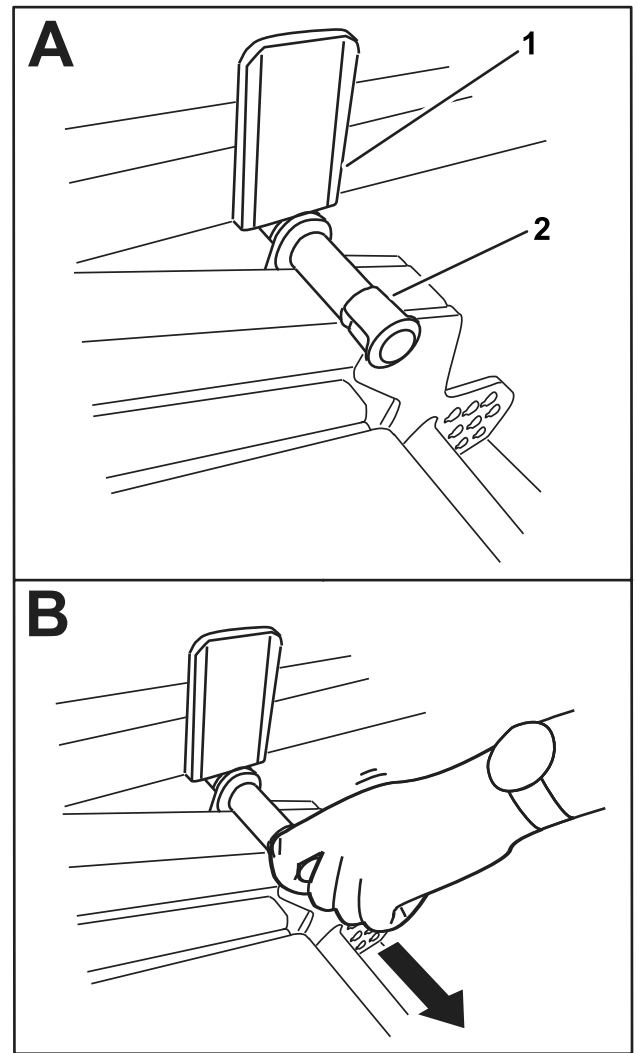

Figure 42
2. Slowly rotate the cutting unit down until the pin contacts the lift-arm plate (A in Figure 42).
3. Use your foot to press down on the cutting unit, then pull out on the pin (B in Figure 42) to let the cutting unit settle into the TRANSPORT position.